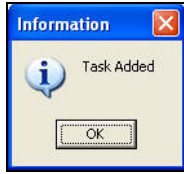

Figure 11.2.7
4. When added the “Information” screen will appear. Click on **OK** to complete the action (Figure 11.2.7).